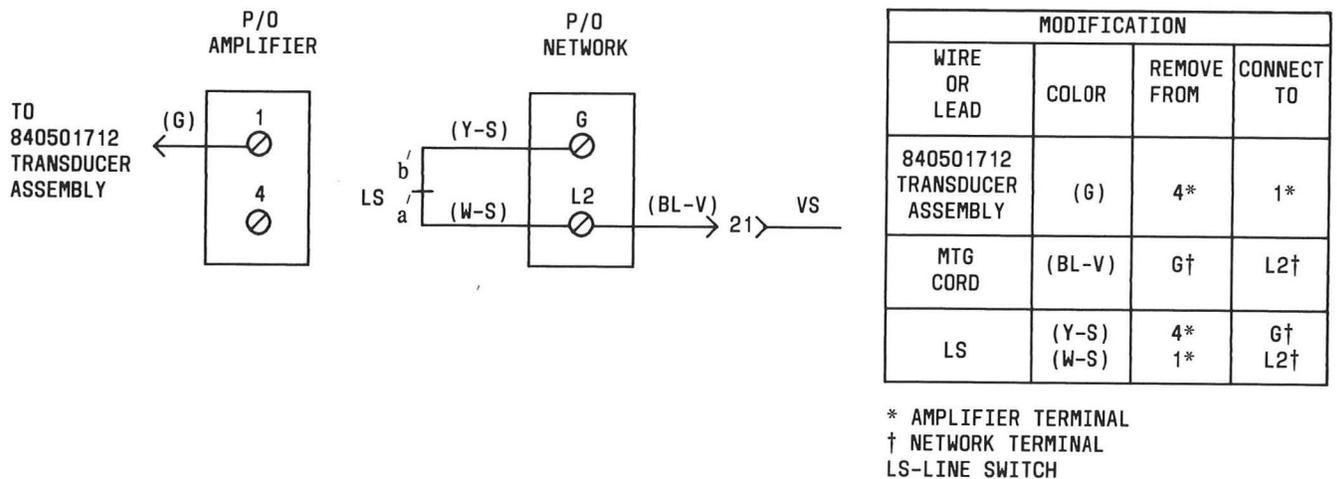

Fig. 6—Telephone Set Connections for Automatic DO-NOT-DISTURB Feature
(1) This feature permits a station user to block any incoming dial intercom and DSS calls. Use of this feature alerts the calling party that the called party does not want to be disturbed. This is accomplished by returning an audible tone (500 Hz, continuous) to the calling party whenever either the automatic or manual DND feature is activated. In COM KEY 2152 Key Telephone System, a visual signal is also provided on the DSS console when the manual DND feature is in use. The COM KEY 2152 Key Telephone System currently provides a manual DND option but it is only available on station sets that are equipped with the HFAI option. The major difference between the automatic and manual DND options is that automatic is activated only when the station set is off-hook, while the manual can be activated with the station on-hook or off-hook.
(2) Refer to Fig. 6 for telephone set modification for automatic DND feature.
(3) Refer to Section 518-450-102 for necessary KTU and KSU connection information with the DND feature.
(4) For manual DND feature with these telephone sets, a 688A key must be ordered separately and installed as follows.